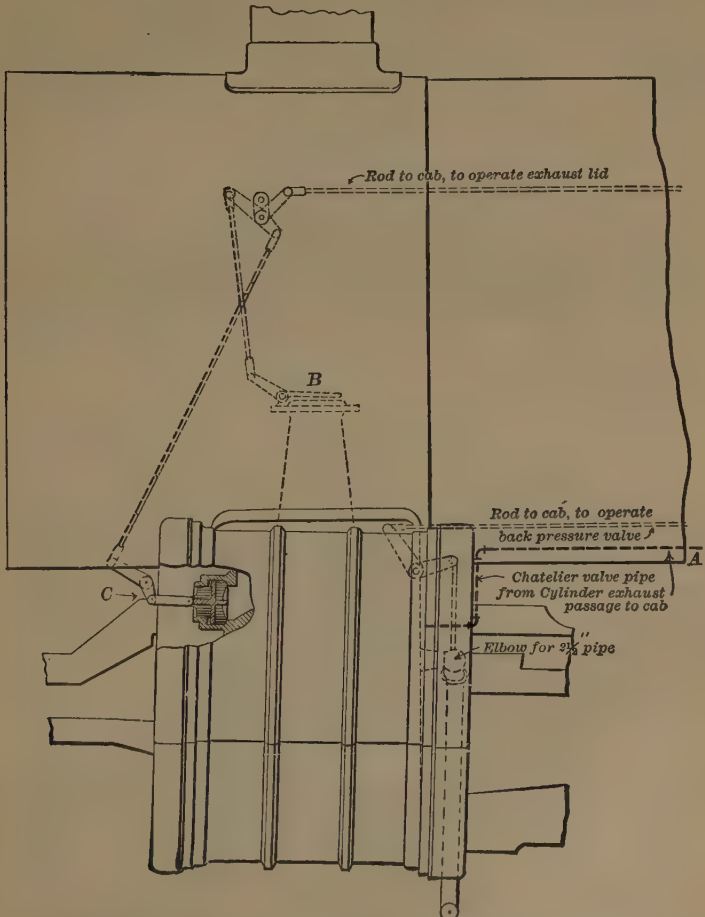

Fig. 304. Baldwin Water Brake for Compound Engine.
A. Referring to Figs. 304 and 305: Water entering the pipe *A* goes to *aa* and the exhaust passages. The valve *D* regulates the back pressure against which the piston will operate; *E* is a safety valve in the live steamways; *C*, air-inlet valves preventing smoke and cinders being drawn into the cylinders; *B*, a lid to close the exhaust nozzle.